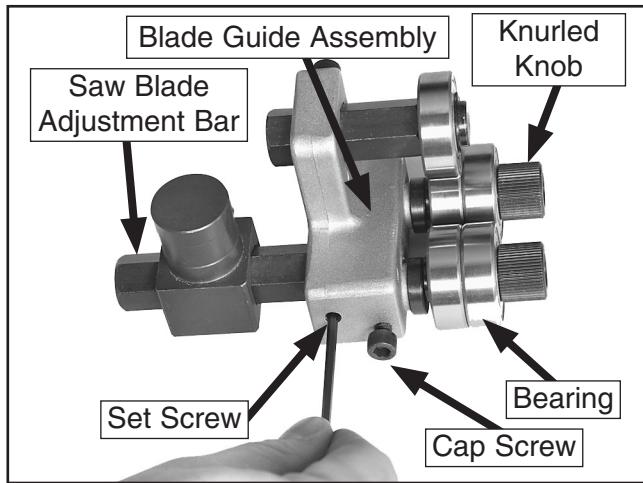

Figure 3. Securing upper blade guide assembly set screw.
- Using a 3mm hex wrench, loosen the set screw (**Figure 3**) on the left side of the blade guide assembly, slide the saw blade adjustment bar into the slot in the back of the blade guide assembly, then tighten the set screw.
- Loosen the cap screws (**Figure 3**) on either side of the blade guide bearings and rotate the knurled knobs so the bearings are positioned outward.